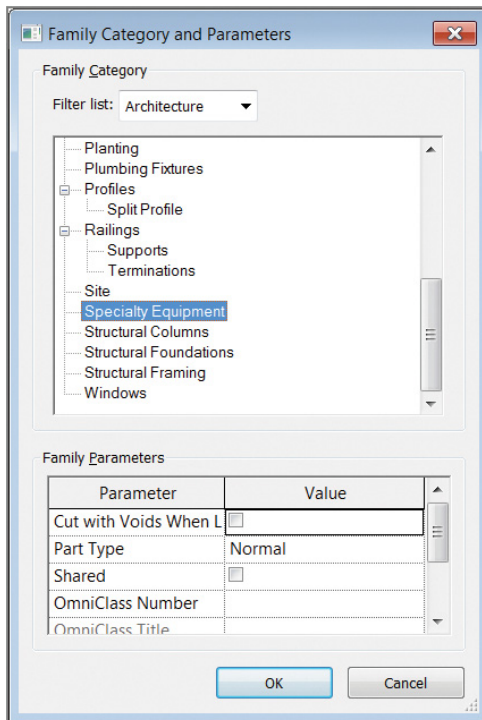

FIGURE 6.10 Changing the family category
3. When the Family Category and Parameters dialog box appears, the current category is selected. Select Specialty Equipment from the list (Figure 6.10), and click OK.